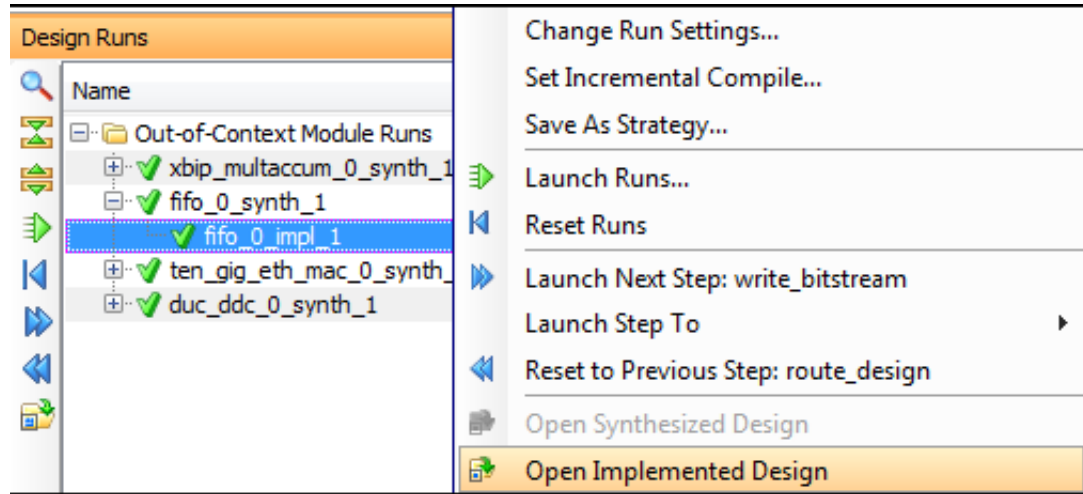

Figure 2-7: Opening an Implemented IP
- After implementation completes, right-click the IP design run, and select **Open Implemented Design** to open the design for analysis, as shown in Figure 2-7.